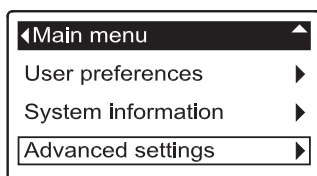

FIG. 38
2. From any of the rolling status screens, press the conditioner/refiner's SELECT (O) button to display the **Main menu**.
3. Press the conditioner/refiner's DOWN (▼) button to scroll through the menu options until **Advanced settings** is highlighted (See Figure 38).